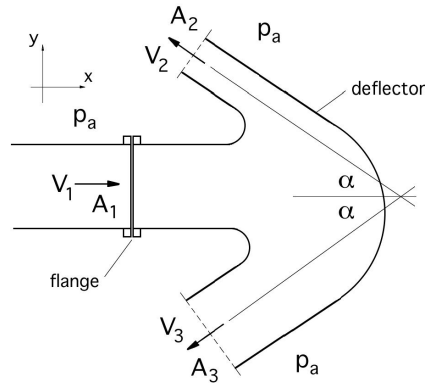

Figure P4.52
4.52 A water deflector is held onto a pipe of area A_1 at a flange. The deflector has two exits, as shown in Figure P4.52, which exit to atmospheric pressure. The flow is steady, one-dimensional, and the water has a constant density ρ . With both exits open, velocity $V_2 = V_1$, and area $A_2 = A_1/2$. Ignore the effects of gravity. Show your control volumes and